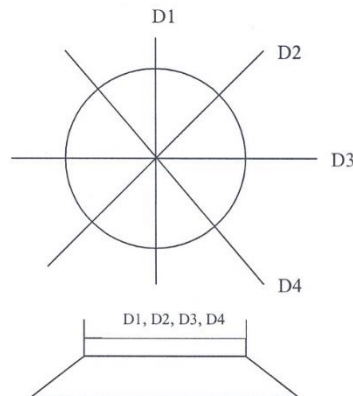

Figure 1: Typical Measuring Pattern
- 5.2.6 Measure and record the diameter of the circular area four times, at intervals of 45° and to the nearest 0.1 inch, as shown in Figure 1.
- 8.2.6 Measure and record the diameter of the circular area four times, at intervals of 45° and to the nearest 0.1 inch, as shown in Figure 1.